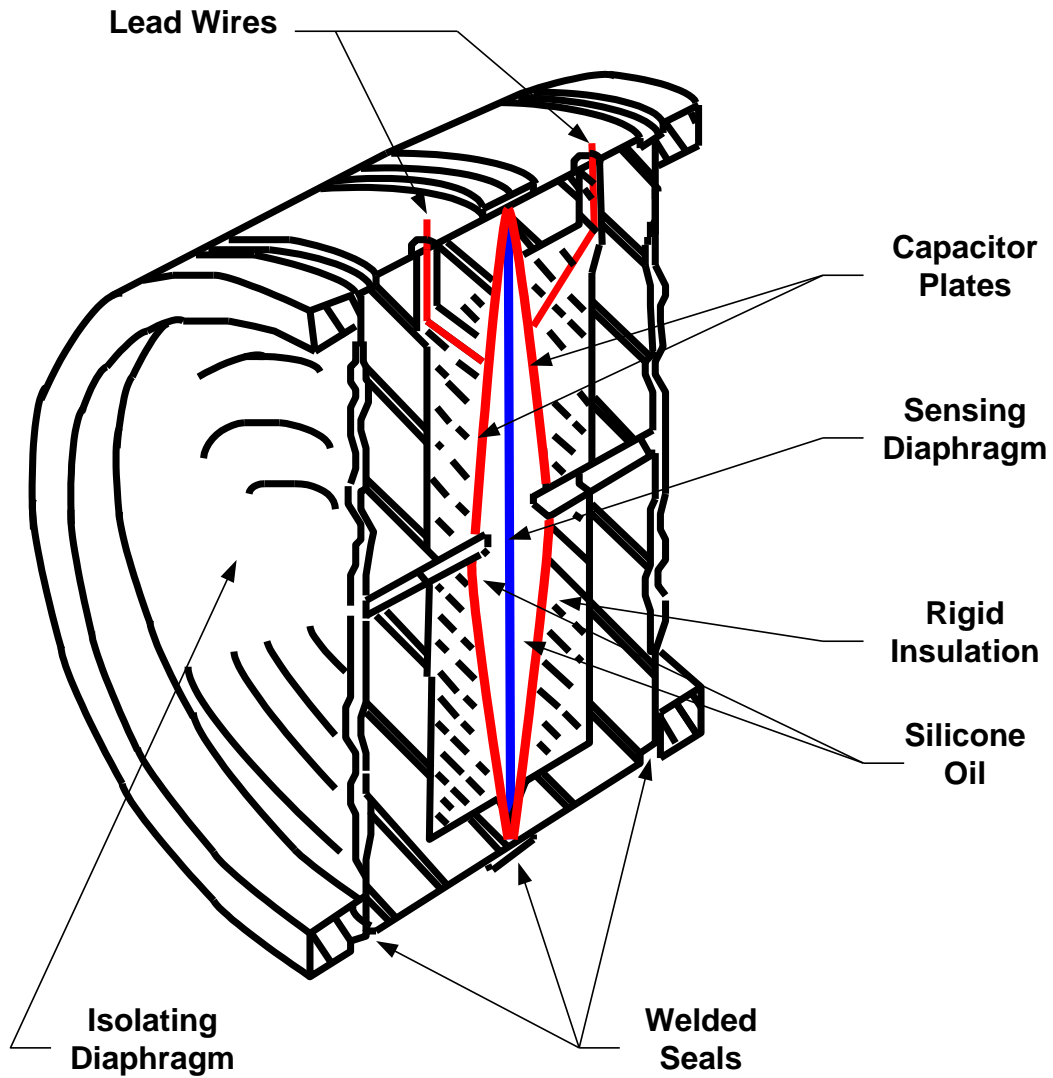

Figure 4 - Rosemont δ -CELL
- Figure 4 – Rosemont δ -CELL
The Rosemount Model 1151 Series ALPHALINE Pressure Transmitters have a variable capacitance sensing element, the δ -CELL, shown in **Figure 4**. Differential capacitance between the sensing diaphragm and the capacitor plates is converted electronically to a 2-wire 4-20 mADC, or 10-50 mADC signal.